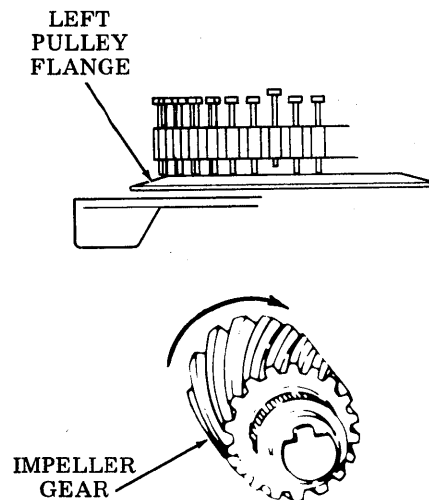

Fig. 41—Type Carrier Alignment
- (e) Rotate type carrier one revolution by turning impeller gear by hand clockwise. At the same time, align any protruding type pallets against the left pulley flange (Fig. 41).